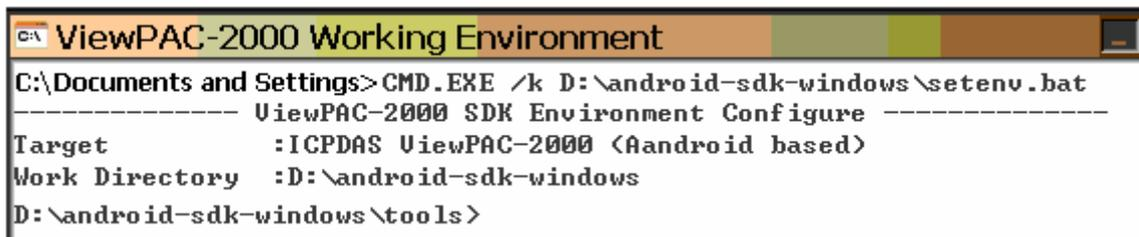

Fig. 2-6
- Start using the “ViewPAC Build Environment” by double clicking the shortcut for the “**ViewPAC-25A1 Build Environment**” on the desktop or by clicking through “Start”> “Programs”> “ICPDAS”> “ViewPAC-25A1 SDK”> “ViewPAC-25A1 Build Environment” icon. Then a special DOSBOX will be displayed in which we can compile applications for the ViewPAC-25A1. Refer to Fig. 2-6.